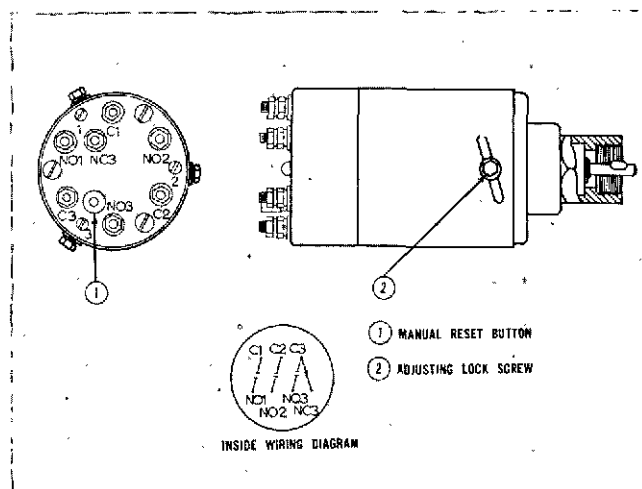

Fig. 15-1-5, CGS28. Triple engine speed switch
1. Switch 1. Ref. Fig. 15-1-5.
2. Switch 2. Ref. Fig. 15-1-5.
3. Switch 3. Ref. Fig. 15-1-5.